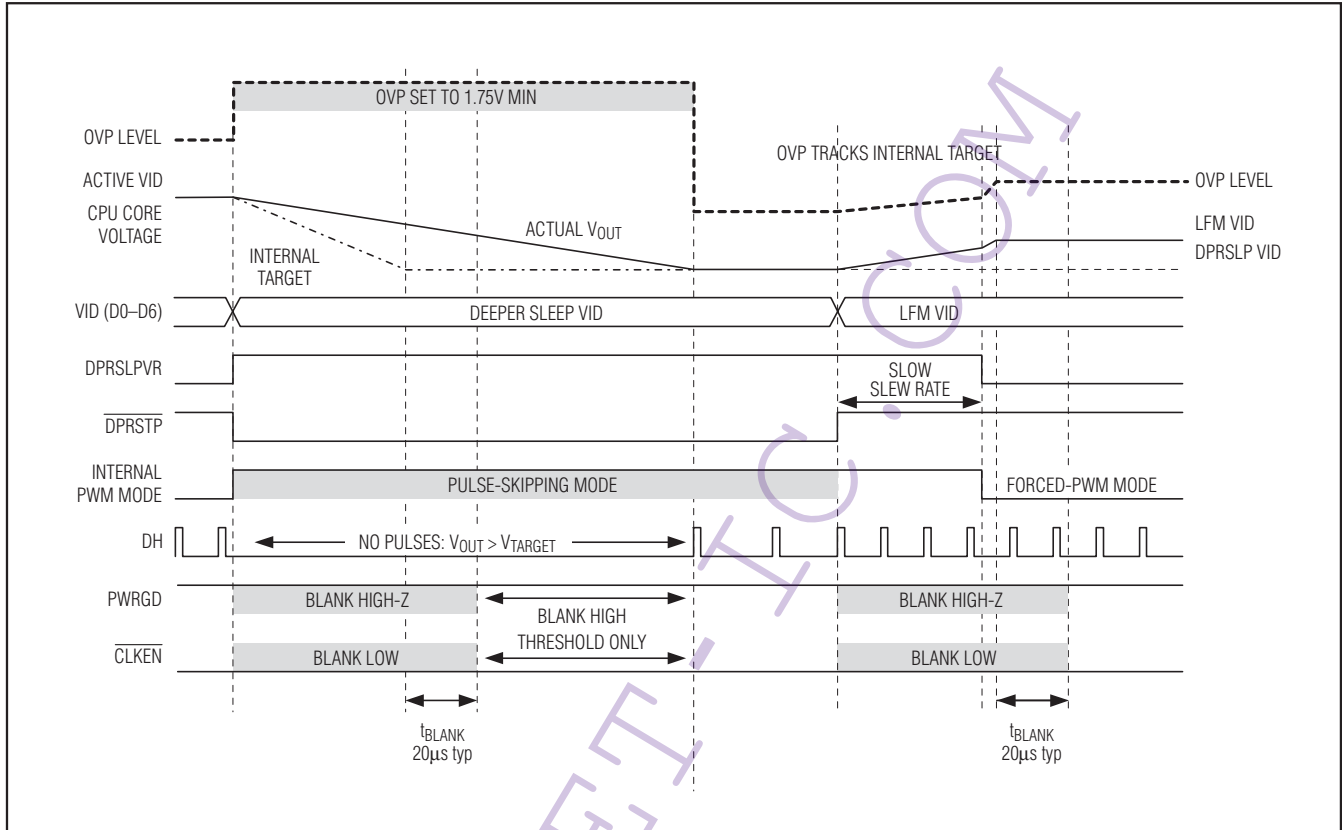

Figure 7. IMVP-6 Slow C4 Transition
- Slow C4 deeper sleep exit:** When exiting deeper sleep (DPRSLPVR stays high, $\overline{\text{DPRSTP}}$ pulled high) while the output voltage is regulating to the deeper sleep voltage, the MAX8796/MAX17401 remain in skip mode and ramp the output voltage to the LFM DAC code provided by the processor at 1/4 the slew rate set by R_{TIME}. The controller blanks PWRGD and $\overline{\text{CLKEN}}$ (forced high impedance) until 20µs after the transition is completed. See Figure 7.